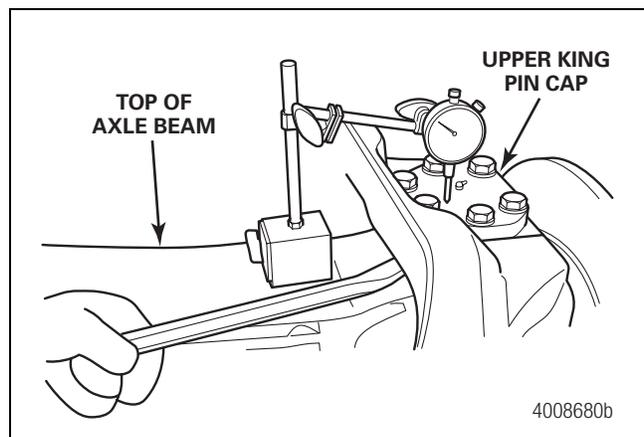

Figure 8.11
9. Install a dial indicator to the axle housing so that the tip is located on the upper king pin cap. Figure 8.11.